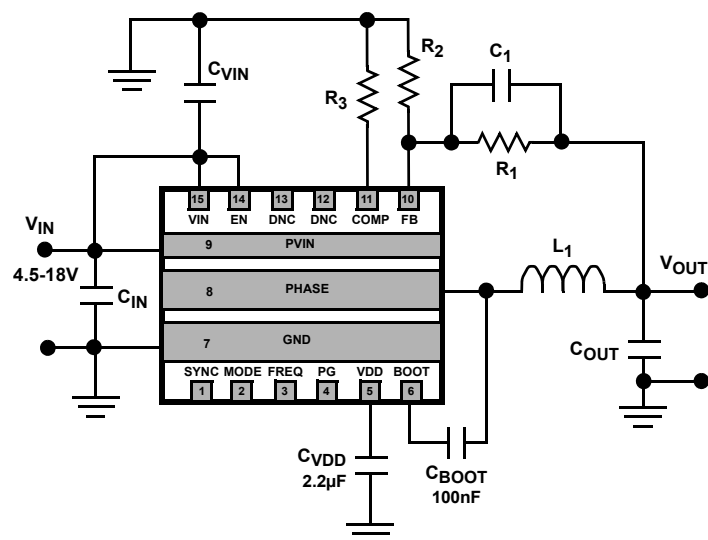

FIGURE 1. TYPICAL APPLICATION SCHEMATIC FOR INTERNAL COMPENSATION
TABLE 1. DESIGN TABLE FOR DIFFERENT OUTPUT VOLTAGE USING INTERNAL COMPENSATION (SEE Figure 1)
1. The design table is referencing the schematic shown in Figure 1.